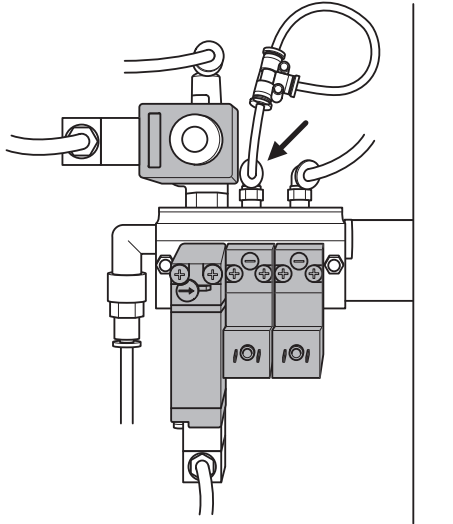

Fig. 39: Stopping the air supply behind Y10b
- Stop the air supply behind the solenoid valve (Y10b), as shown in Fig. 39:.